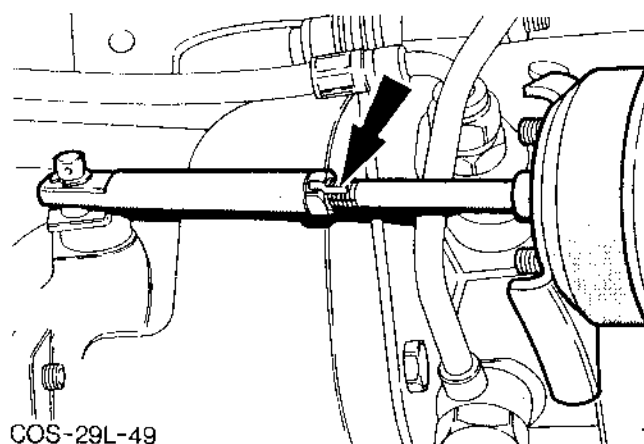

Fig.8. Paint mark introduced over thread and locknut of waste gate actuator rod.
7. If reading obtained is within specification, (see figure identified above), apply a small amount of paint to turbocharger actuator rod threads and locknut, refer to Fig.8.
11. If boost pressure is now within specification, apply paint mark to actuator rod threads and locknut, refer to Fig.8.